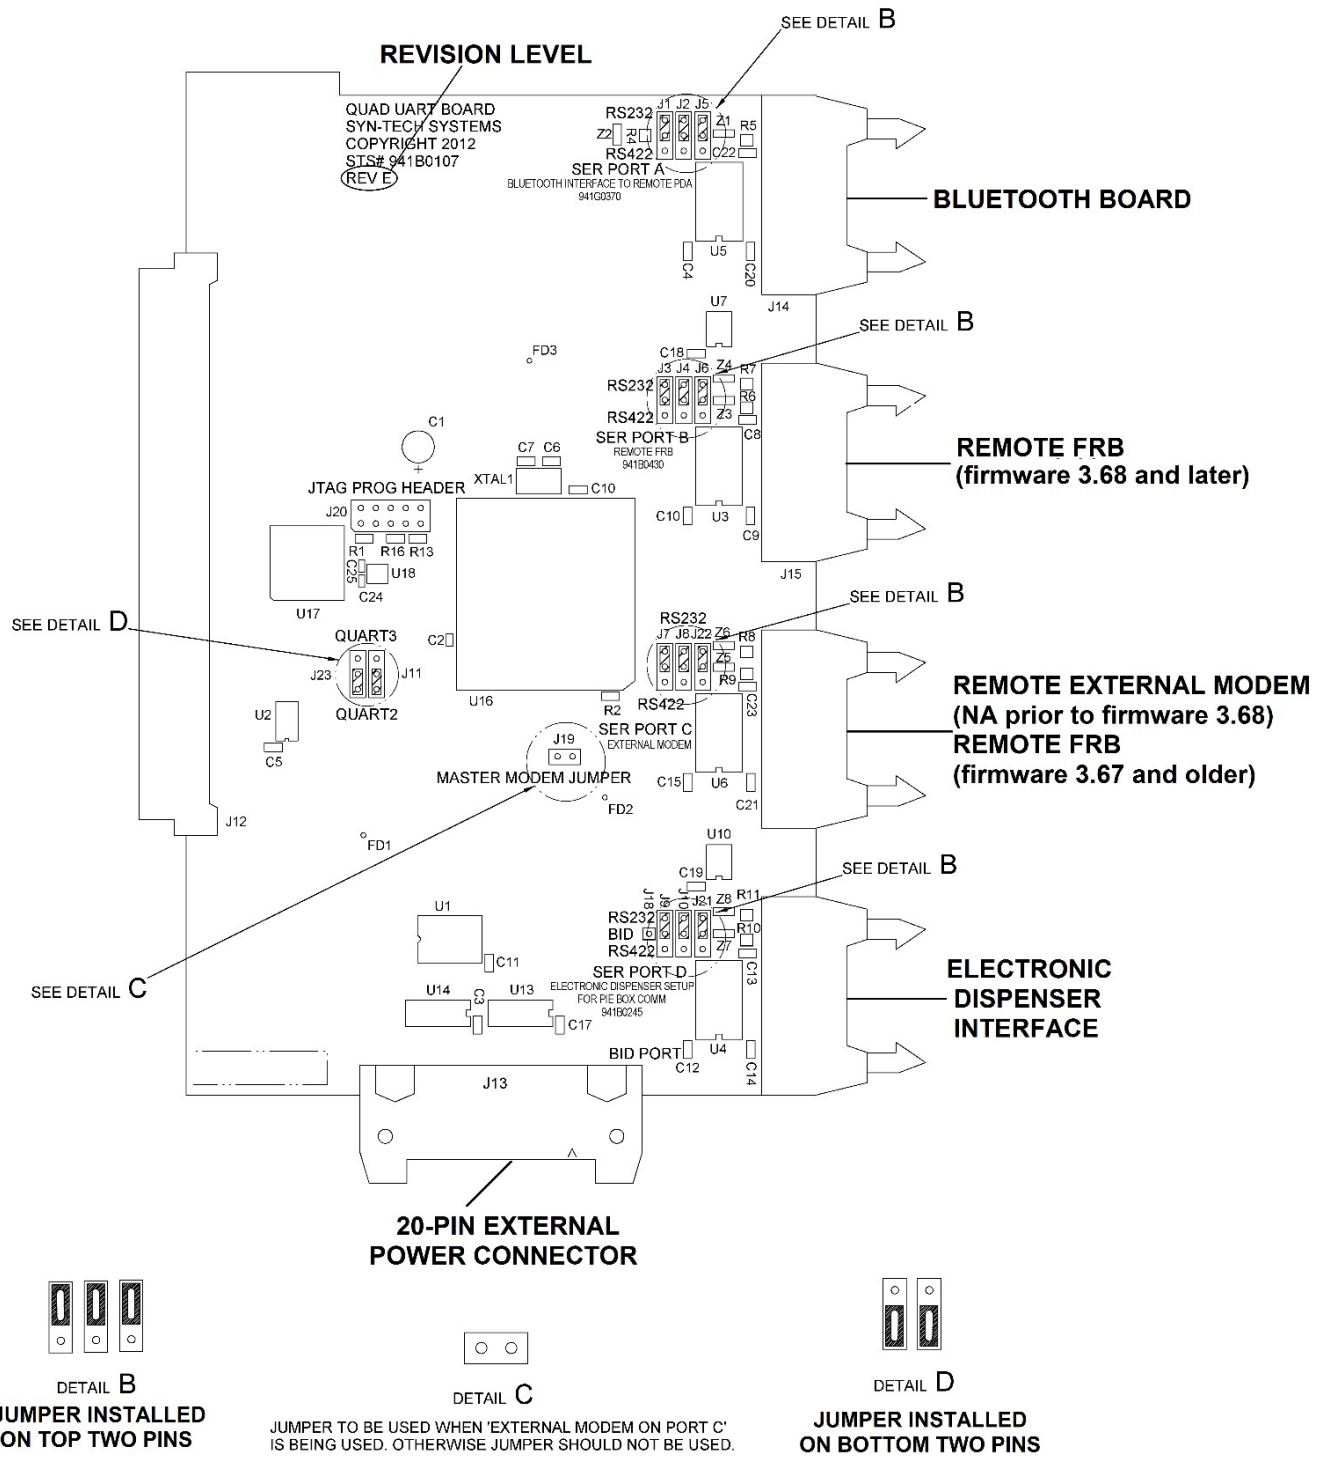

Figure 2. 941B0107C (Rev E) Quad UART Board
- The revised 941B0107C, Rev E (Figure 2).
### **941B0107C, Rev E (Figure 2)**
10/9/2015	Corrected error in Figure 2; wrong jumper pin identifier for SER PORT C Reformatted product bulletin to meet new documentation requirements